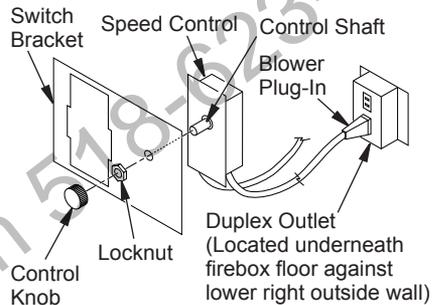

Figure 37 - Attaching Speed Control to Firebox (Millivolt Models)
5. Mount speed control box by placing plastic control shaft through opening in switch bracket (see Figure 37) or ignition module bracket (see Figure 38).
5. Mount speed control box by placing plastic control shaft through opening in switch bracket (see Figure 37, page 23) or ignition module bracket (see Figure 38, page 23).
6. While supporting speed control, secure control shaft with lock nut by pushing and turning lock nut with pliers clockwise until it is tight against mounting plate. Place control knob provided on shaft (see Figure 37 or 38, page 23).